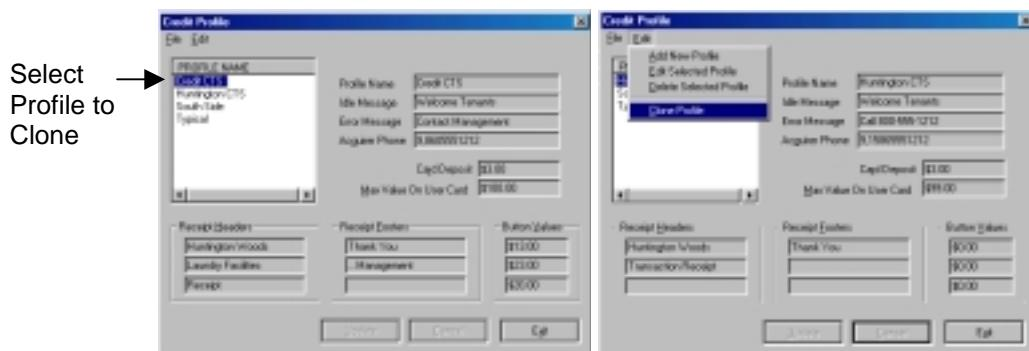

Figure 10.8 Cloning a Credit CTS Profile
2. Click the profile to clone from the Profile List Window (Figure 10.8).
3. Select Clone Profile from the Edit drop-down menu (Figure 10.8).